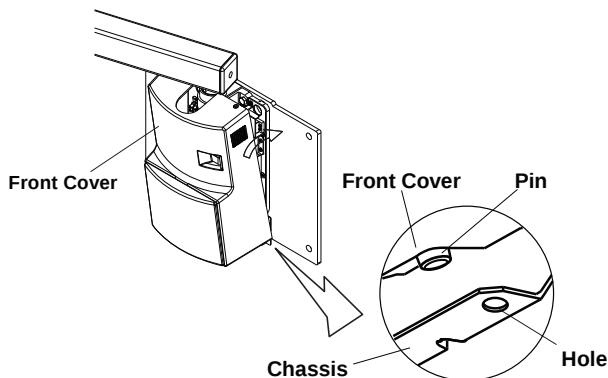

Fig.3-9A Attaching Front Cover-1
- Set the pins located on the bottom of the front cover into holes on the bottom of metal chassis, and then push the top side toward the wall to close. **(Fig.3-9A)**